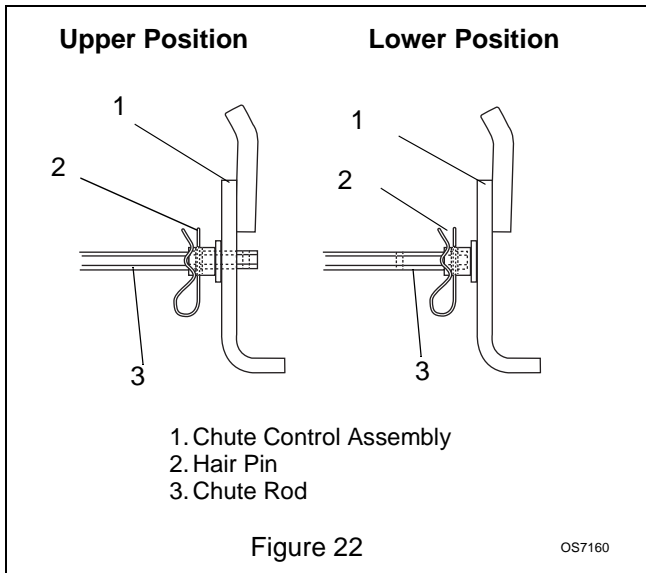

Figure 22
- Align correct chute rod holes in chute control assembly as shown in Figure 22, and then secure chute rod in position with hair pin remove in step 1.